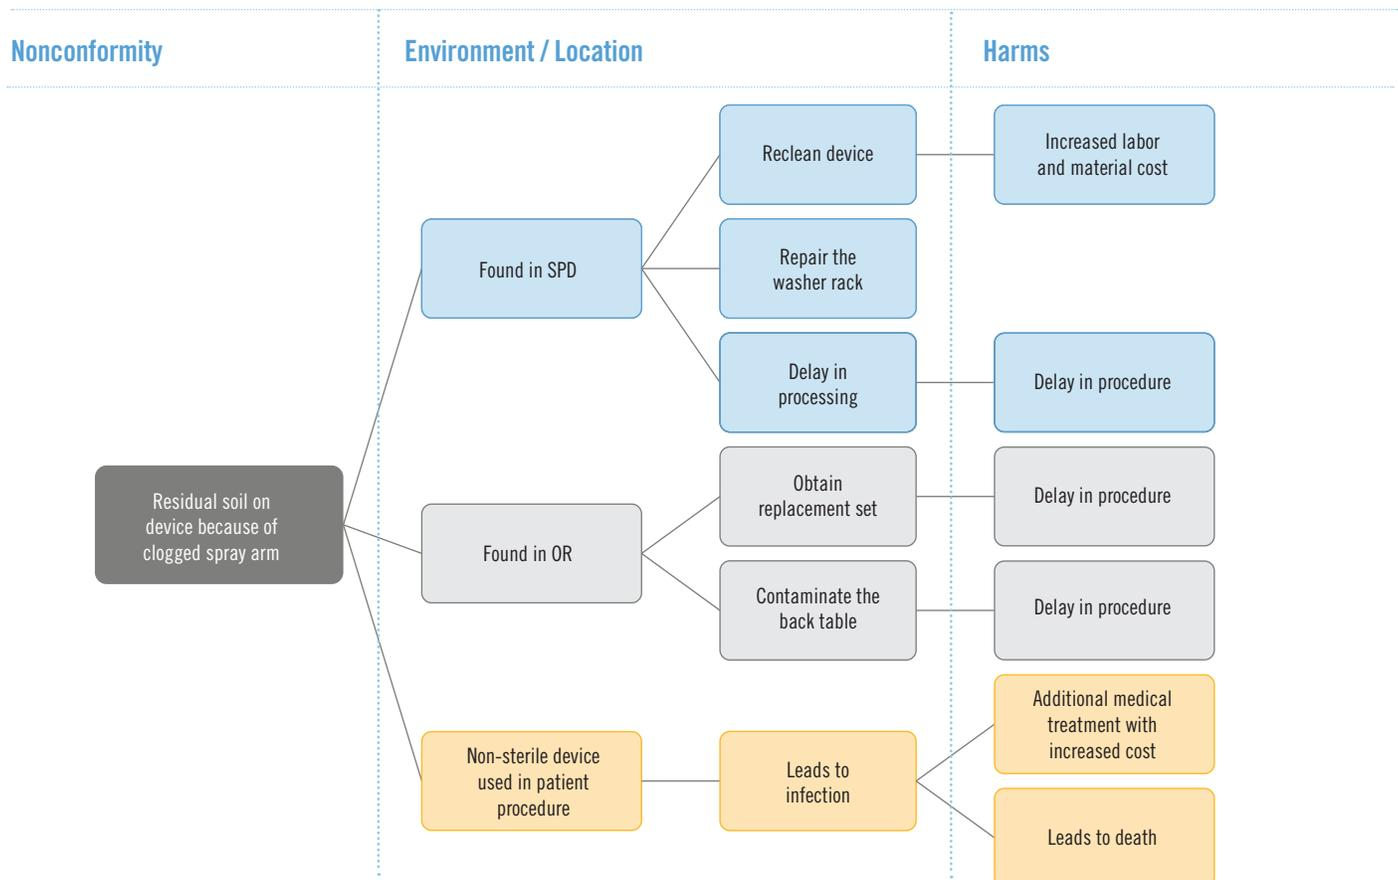

Figure 2: Fishbone diagram example of residual soil on device
The second method of risk assessment starts with a nonconformity and determines all the possible harm. The Ishikawa (fishbone) diagram is a common method; it focuses on the five sources of nonconformities: materials, environment, process, personnel, and equipment. Let’s look at an example in **Figure 2**. When a spray arm is clogged, residual soil may be left on a device. That soil may be found by SP professionals during assembly or by those in the Operating Room (OR) prior to use. There is also a possibility that it would not be found until it is used in the procedure. The fishbone diagram looks at the effect